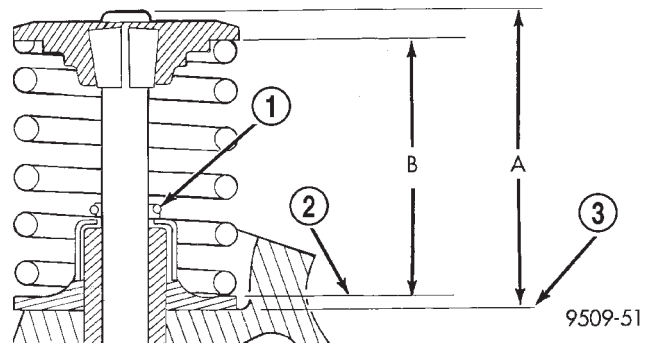

Fig. 123 Spring Installed Height and Valve Tip to Spring Seat Dimensions
(8) Check valve tip to spring seat dimensions A after grinding the valve seats or faces. Grind valve tip until within specifications. Measure from valve tip to spring seat when installed in the head (measurement A) (Fig. 123). For specifications, refer to Engine Specifications in this section. The valve tip chamfer may need to be reground to prevent seal damage when the valve is installed.
(4) Check the valve spring installed height after refacing the valve and seat (measurement B) (Fig. 123). Make sure measurements are taken from top of spring seat to the bottom surface of spring retainer. If height is greater than 40.18 mm (1.58 in.), install